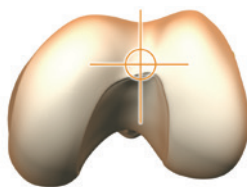

Figure 1
**Note:** Locate the entry point within the intercondylar notch just anterior and lateral to the femoral attachment of the posterior cruciate ligament (Figure 1).